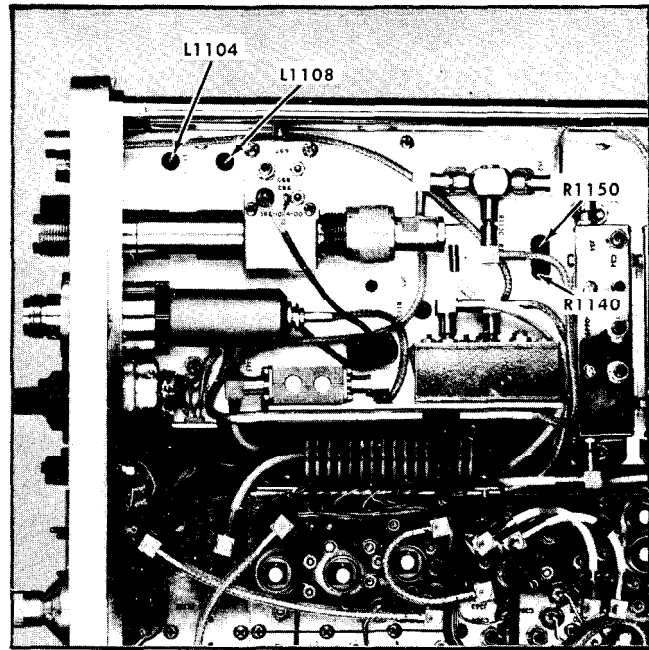

Fig. 6-34. Location of L1104 and 1108, R1150 and R1140.
d. Adjust L1108 (Fig. 6-34) for a positive oscillator start when the INT REF FREQ control is turned from its OFF to ON position. The signal position on the screen should be consistent as the INT REF FREQ control is switched from OFF to the initial ON position. (The control must not be turned past the initial ON position or the oscillator frequency will be changed.)
f. Adjust L1104 (Fig. 6-34) until the oscillator shift range, as the INT REF FREQ is rotated, is 1.2 kHz. The display is the 200th harmonic of the 1 MHz signal. The range of the INT REF FREQ control will also be related to the 200th harmonic, so  $1.2 \text{ kHz} \times 200 = 240 \text{ kHz}$ . With  $100 \text{ kHz/Div}$  dispersion this will equal 2.4 divisions.